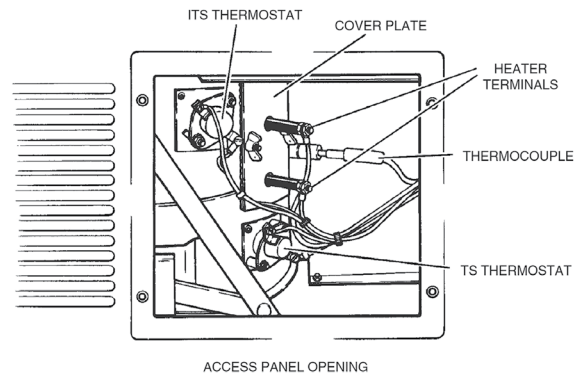

Fig. 12
Four screws hold on Access Panel, located on the right side of toilet (same side as foot pedal). Remove panel to expose blower thermostat, limit thermostat, thermocouple, and heater terminals. (Fig. 12)
- Remove thermocouple but do not disconnect. (Fig. 12)
Thermocouple, in combination with the temperature controller, limits temperature of the heater and prevents overheating. Thermocouple, Type K, develops a small voltage proportional to the temperature of the heater. Thermocouple is located to the right of and midway between heater terminals. (Fig. 12) Tip of thermocouple makes contact with the lower heater coil. Thermocouple leads are color-coded. Wire with red core must be connected to purple lead #7 within the "F" wire nut. Wire with yellow core must be connected to gray lead #6 in "E" wire nut.